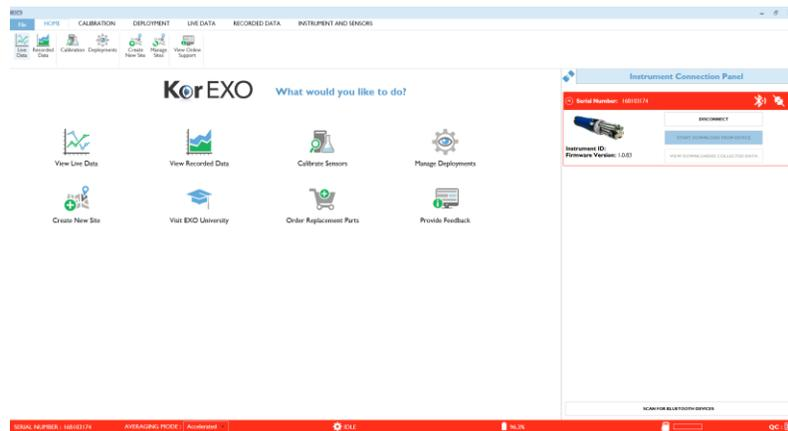

Figure 55. Example of Kor dashboard.
**STEP 5** | With the anti-fouling guard still on, collect a stabilized pre-clean reading in Fulcrum by navigating to the Dashboard in the Kor Software and selecting the “Live Data” icon in the top left banner on the screen in Figure 55.